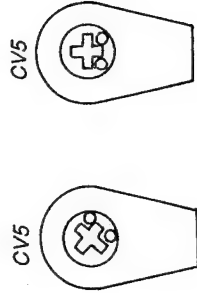

Fig. 18-3.
4. Set CV5 to the position as shown in Fig. 18-3.